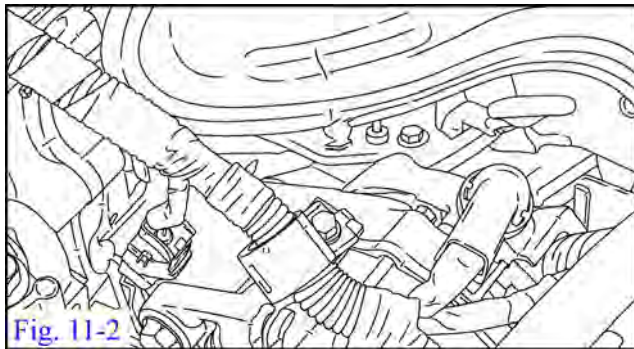

Fig. 11-2
- (b) Using a small flat blade tool, remove the plastic retainer clip from the wire harness on the alternator. Remove and discard the harness bracket attached to the top of the alternator. Retain the fastener for reuse later. (Fig. 11-2).
- (c) Disconnect Alternator wiring. (See Fig 11-2).